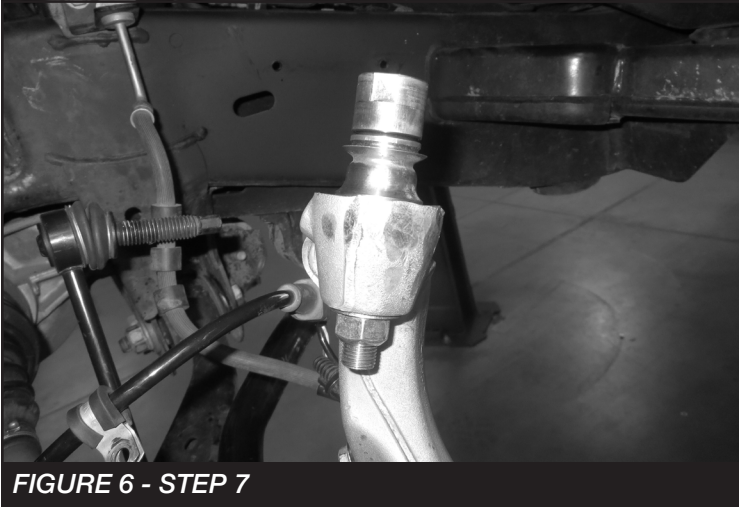

FIGURE 6 - STEP 7
7. Install FT90153 (Lower misalignment) onto FT94538 (Uniball Pin). Then, install into the factory control arm using the supplied 9/16" nut, washer. Torque the nut to 135 ft-lbs. **SEE FIGURE 6**